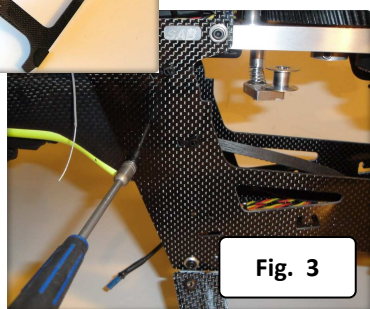

Fig. 3
- In figure 3,4,5 you can see the three conditions, ok, too loose and too tight.